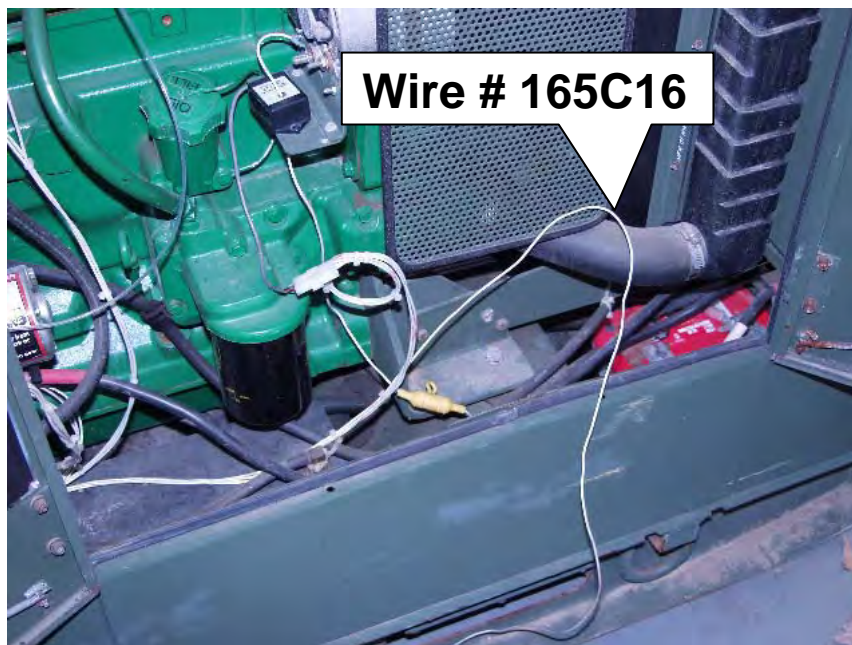

Figure 3. Alternator compartment
- 3 Remove wire #165C16 from harness and battery current transformer (BCT), see figure 3.